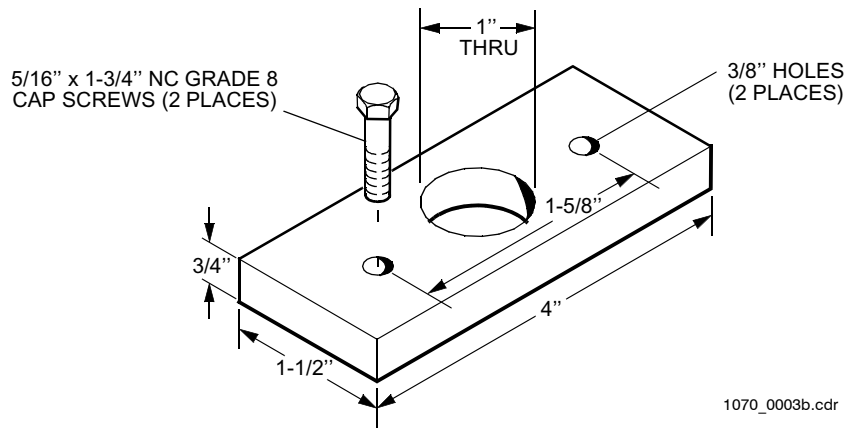

Figure 2-2. Timing-Gear Puller Plate Fabrication Diagram
2. Remove idler timing gear locknut (9).
3. Fabricate timing gear puller plate as shown in Figure 2-2.